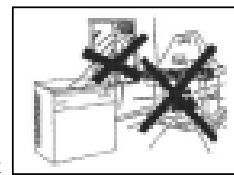
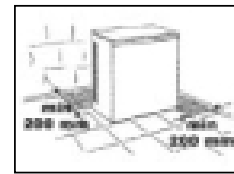

Fig 12.
Fig 14.
- e) machine is away from sources of heat and in a sufficiently ventilated area. A distance of at least 20cm must be allowed between the sides, back and the walls of the machines (Fig.12, Fig.14).